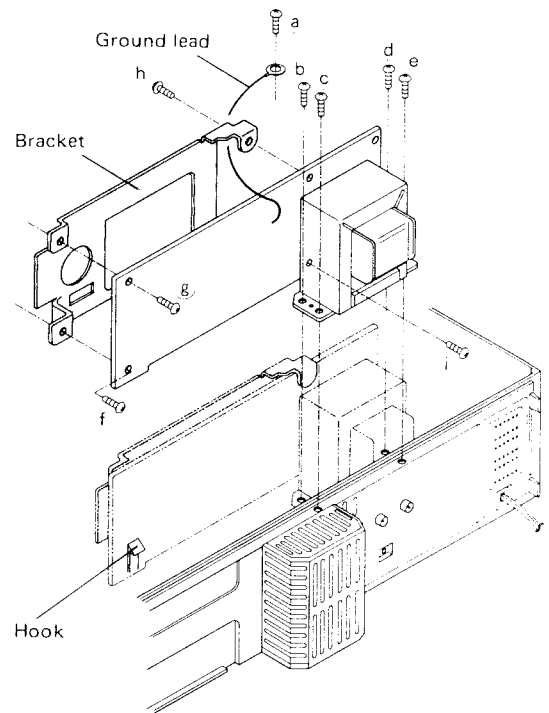

Fig. 2-12
- 5) Remove the screw Ⓐ retaining the PCB HEAD AMP and the ground lead wire as shown in Fig. 2-12.
- 7) Unlock the hook and remove the PCB POWER TRANS by pulling upward as shown in Fig. 2-12.